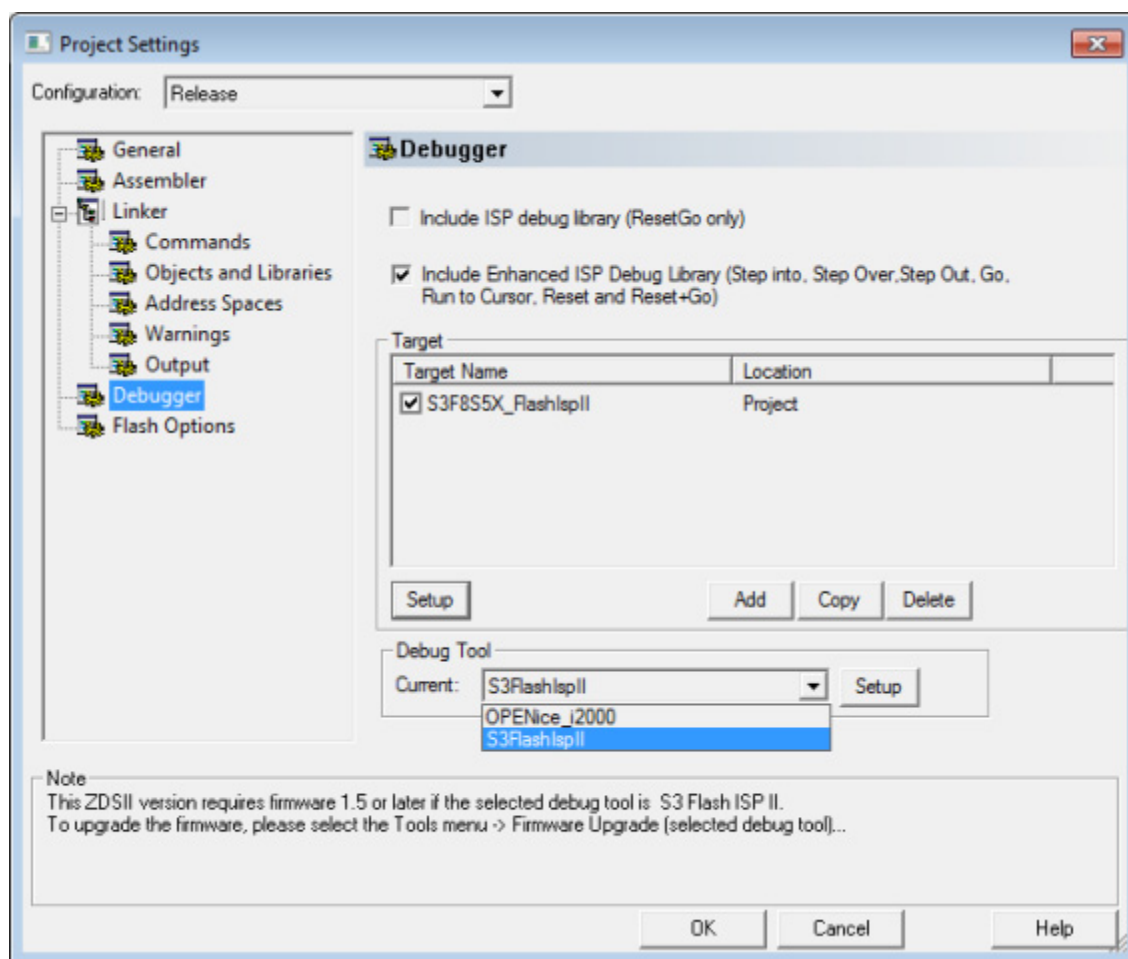

Figure 8. Select the Target and Debug Tool
- On the Debugger page, select **S3F8S5X_FlashIsplI** from the Target list, then select **S3FlashIsplI** from the **Debug Tool** drop-down menu, as indicated in Figure 8.